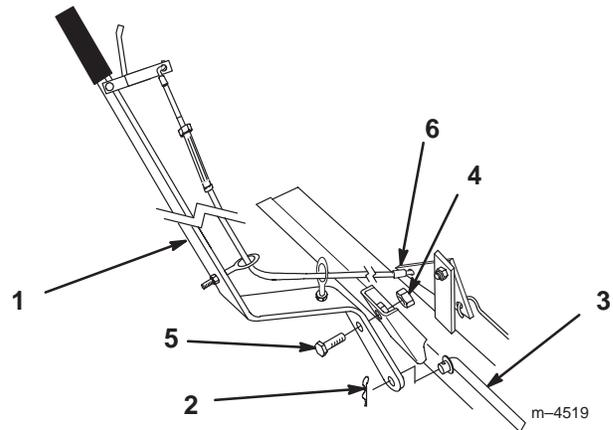

Figure 10
3. Install the 1/2" jam nut on the pivot bolt to lock it in place (Fig. 10).
4. Rotate the index handle to align the hole at the bottom of the handle with the control rod. Insert the control rod and secure with a large hairpin cotter (Fig. 10).
1. Hold the index handle near the pivot support and install the cable "Z" end to the back hole of the triangular index plate (Fig. 10).
2. With the "Z" end of the cable installed, attach the index handle to the pivot support using the 1/2-13 x 1" (25 mm) pivot bolt. Screw the bolt into the pivot support until the handle is snug and then back it off slightly to let the handle pivot freely (Fig. 10).